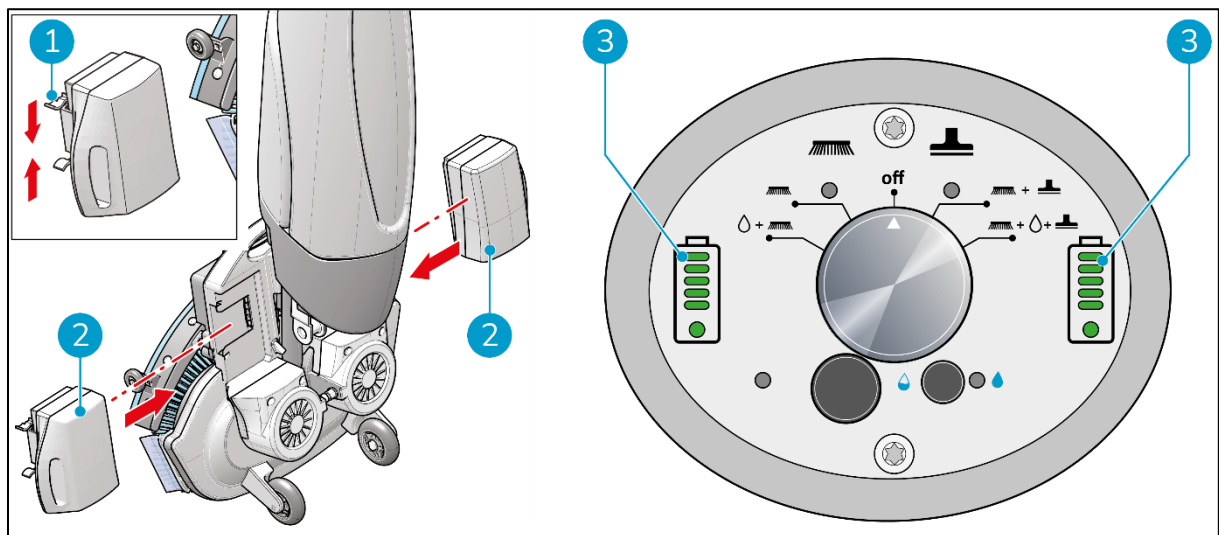

Figure 12
1. Push the blue coded battery (Figure 12, pos 2) in the blue battery slot. A click indicates that the battery is locked in place (Figure 12, pos 1).
3. During operation, the battery indicators (Figure 12, pos 3) on the control panel show the amount of power left.